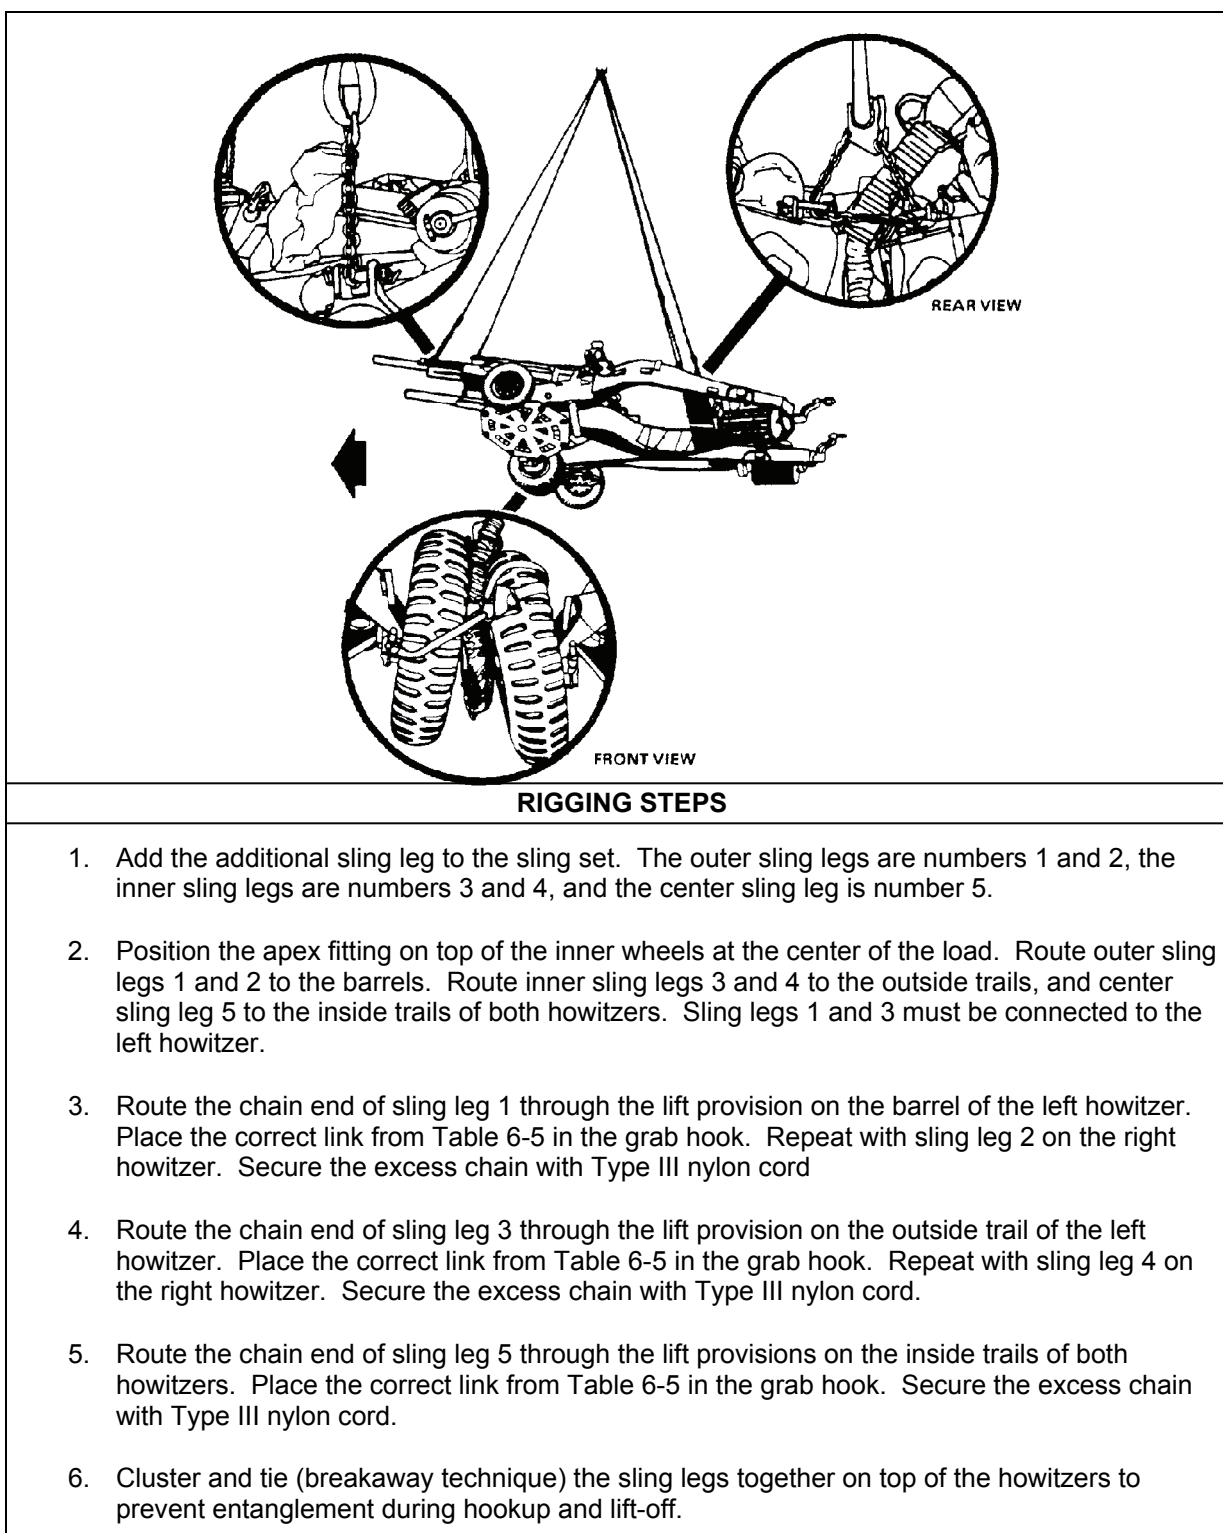

Figure 6-5. Two M102 105-MM Howitzers
- **Rigging.** Rig the load according to the steps in Figure 6-5.